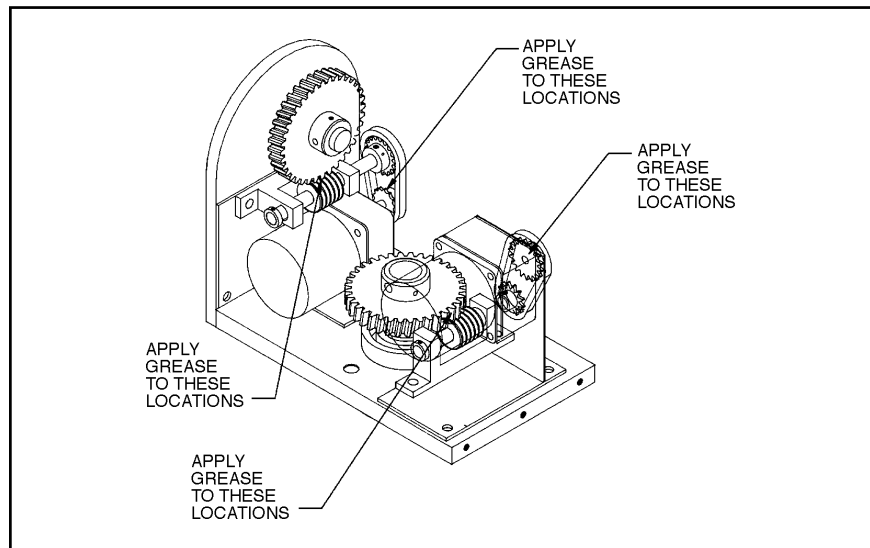

Figure 7. Servicing the Pan/Tilt
1. Liberally apply grease to the pan and tilt gears, chains, and sprockets (refer to Figure 7).